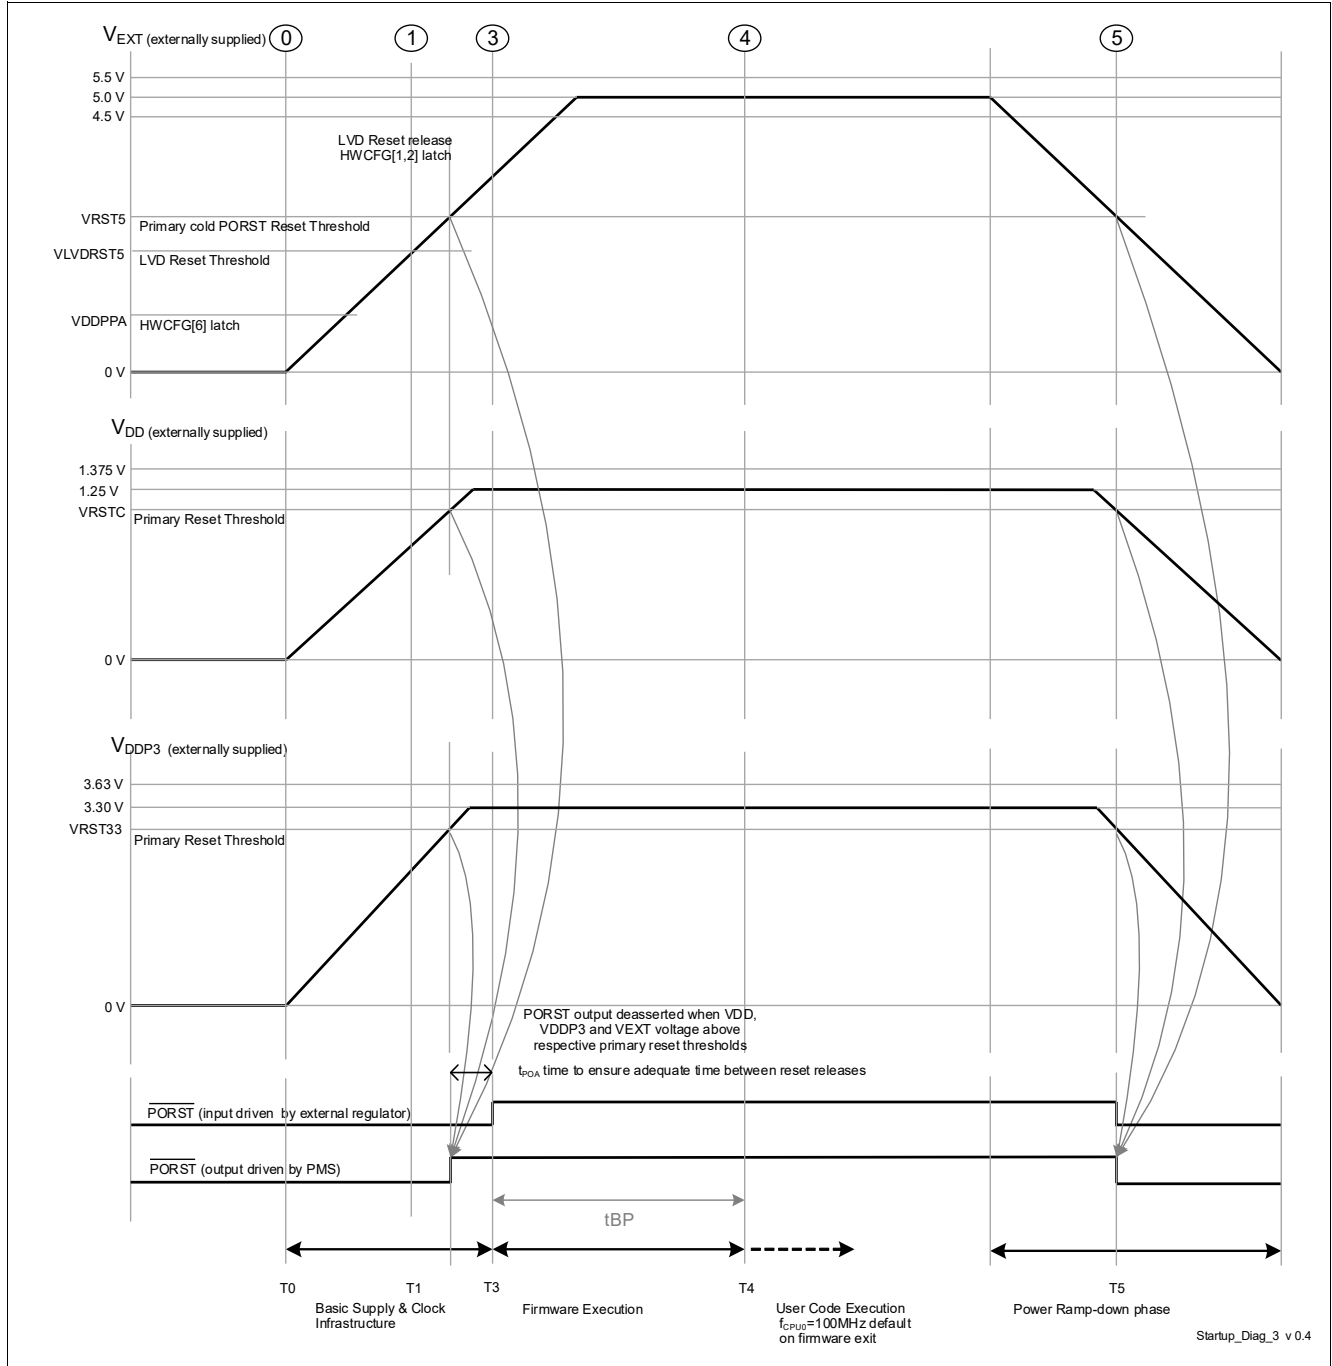

Figure 3-5 External Supply mode (h) - V_{EXT} , V_{DDP3} & V_{DD} externally supplied
- The power sequence as shown in Figure 3-5 is enumerated below